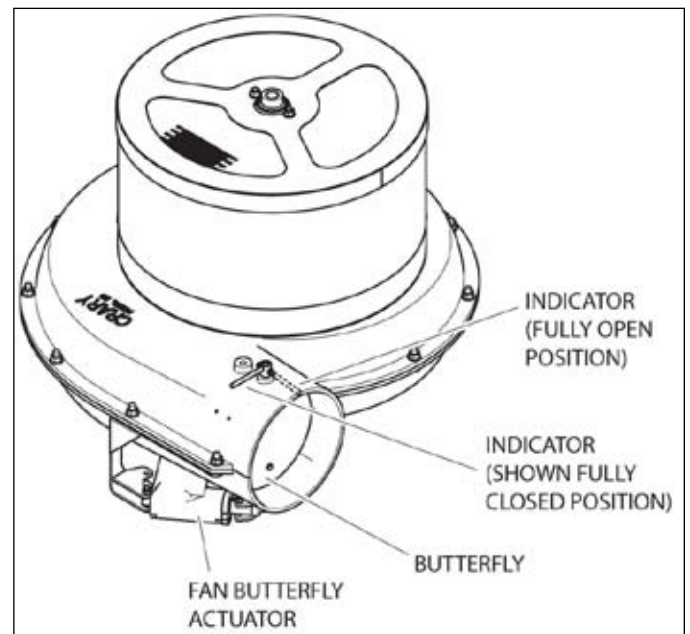

Figure 44, Fan butterfly actuator
1. Move the toggle to the OPEN position (Figure 44) to open the butterfly plate which increases air volume to the air tubes.
2. Move the toggle to the CLOSED position (Figure 44) to close the butterfly plate which decreases air volume to the air tubes.